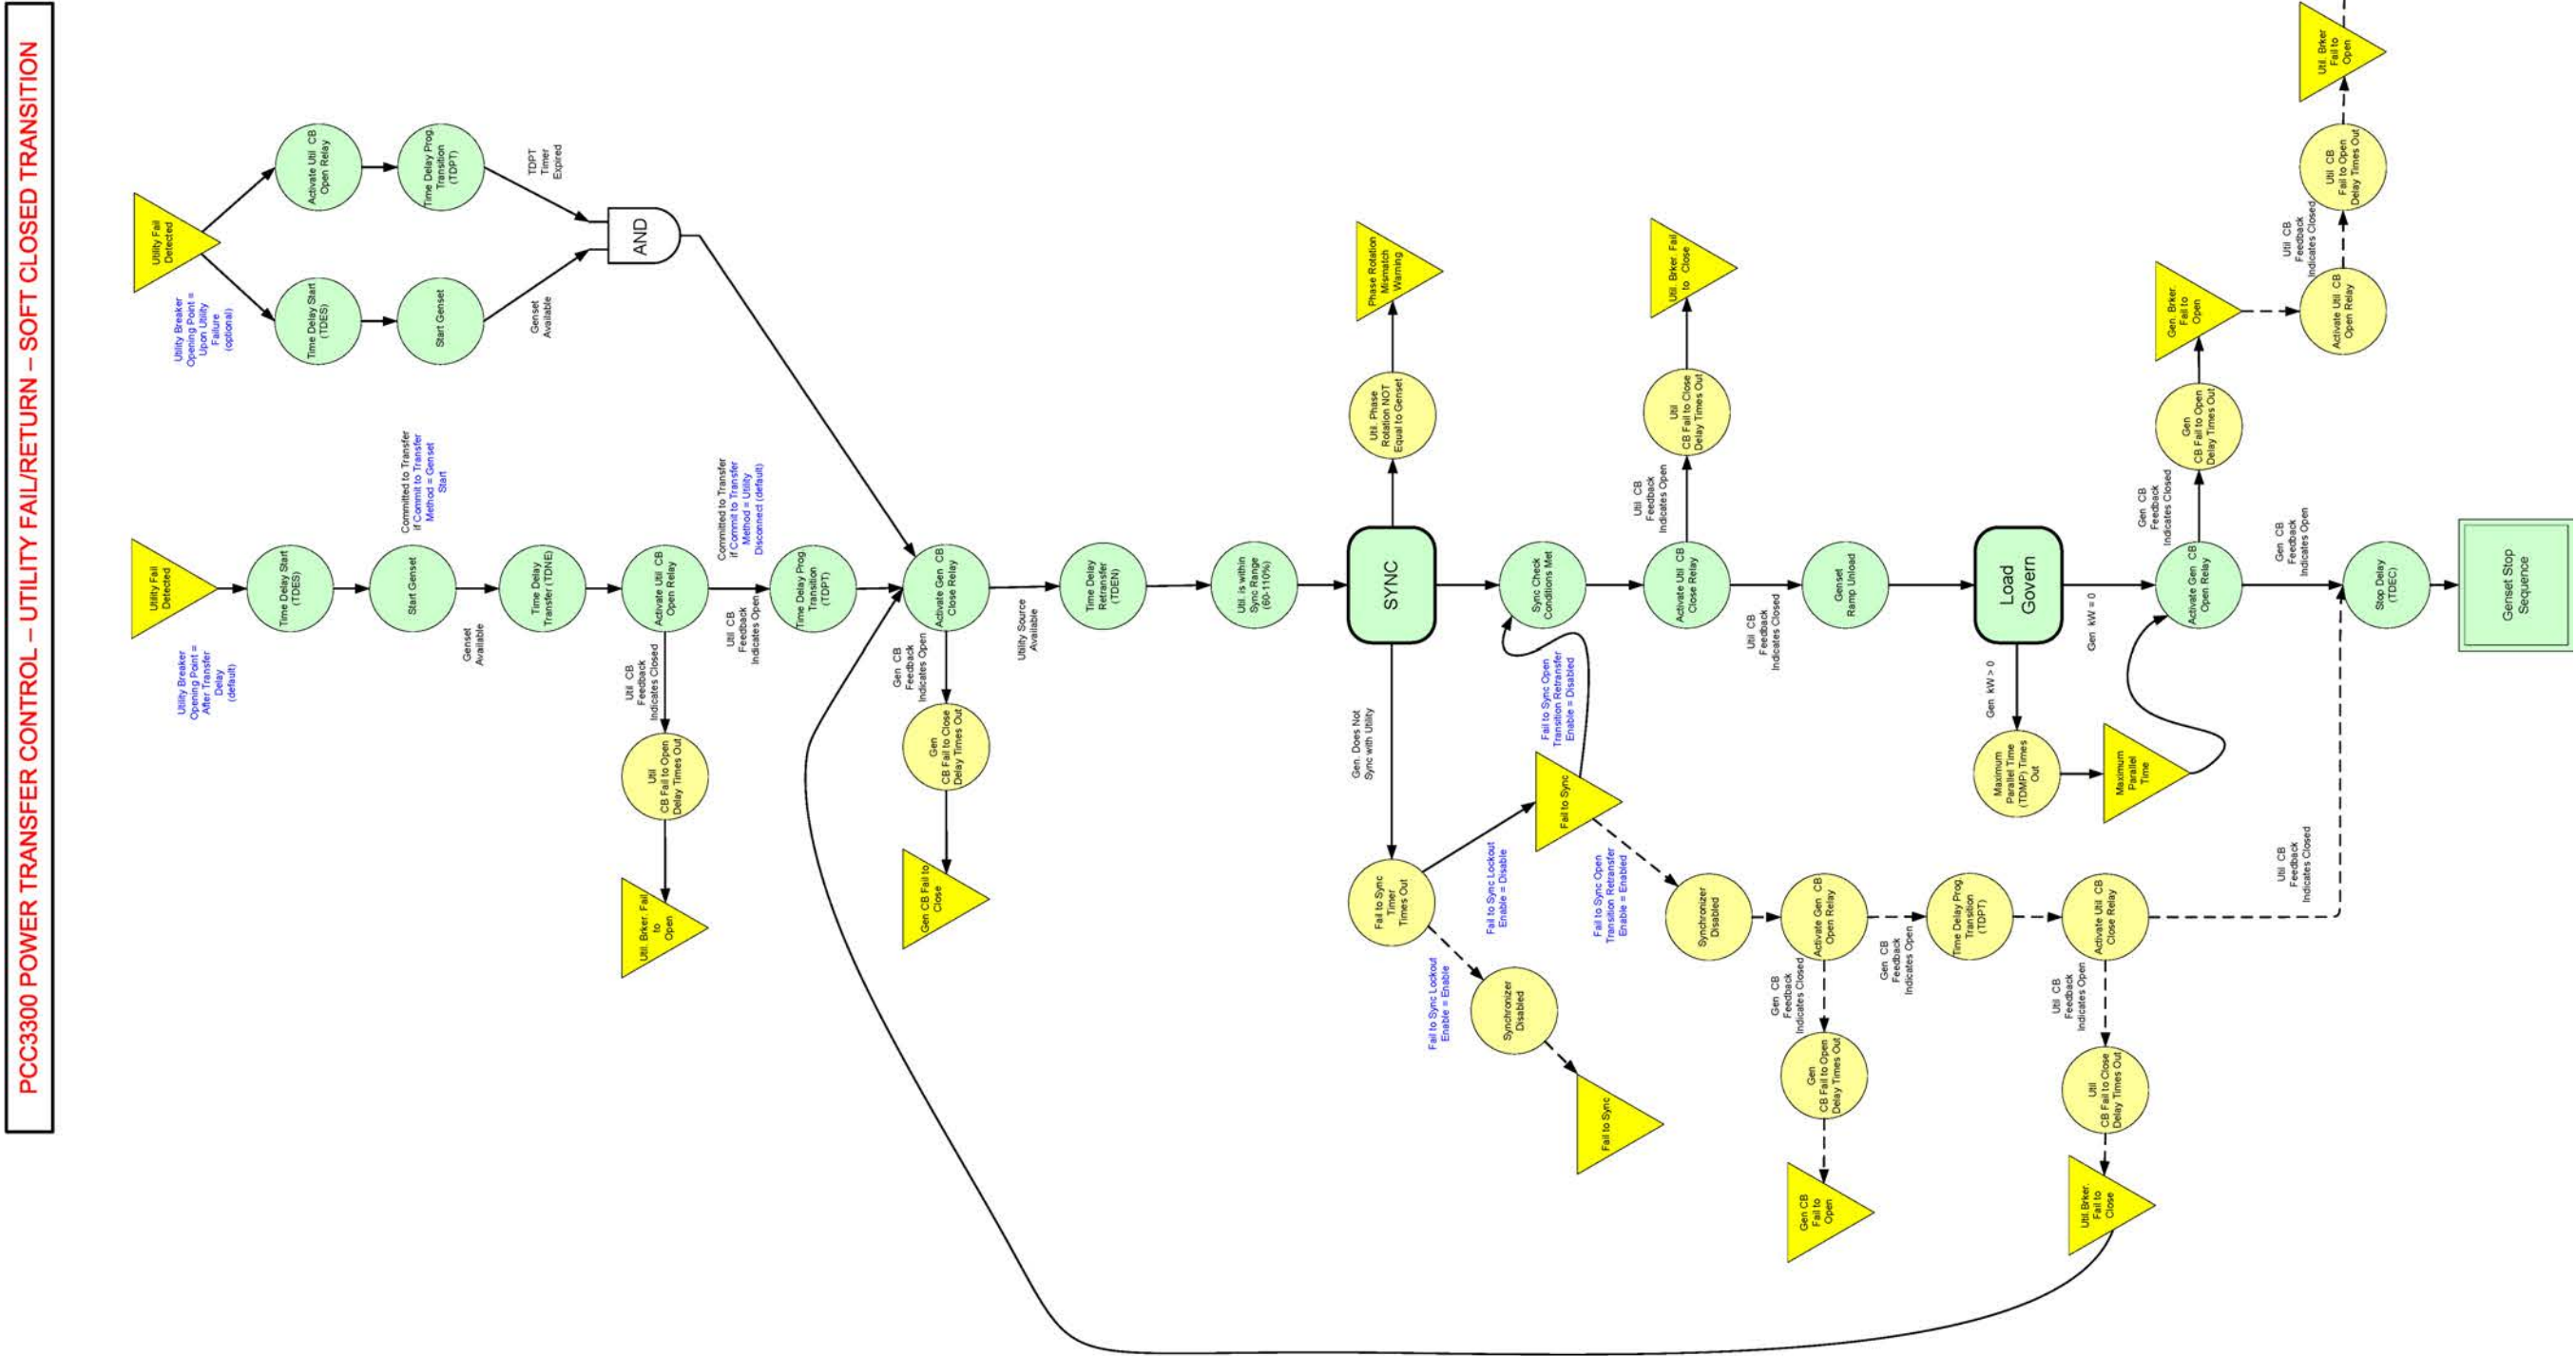

FIGURE 149. POWER TRANSFER CONTROL: UTILITY FAILURE/RETURN, SOFT CLOSED TRANSITION
- Figure 149. Power Transfer Control: Utility Failure/Return, Soft Closed Transition 681